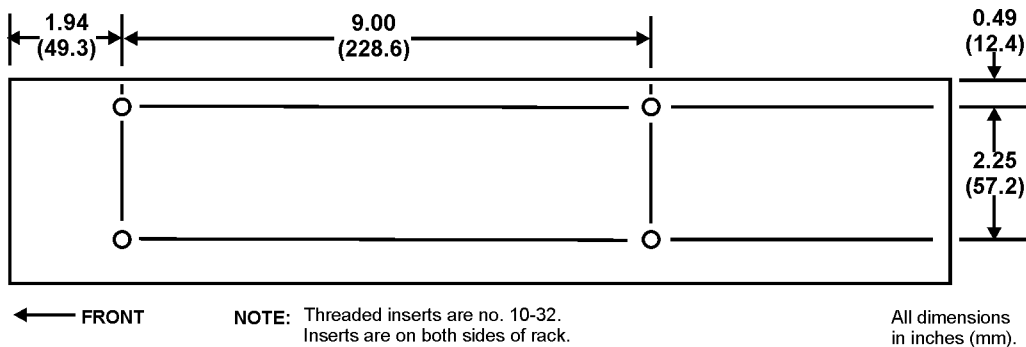

Figure 9. Rack Side View Showing Mounting Holes
mounts in a standard 19-inch rack. One set of brackets (2) is supplied with each TNF or TNQ Series rack. Alternatively the system may be side-mounted using the four no. 10-32 PEM nuts on both sides of the rack. See Fig. 9.